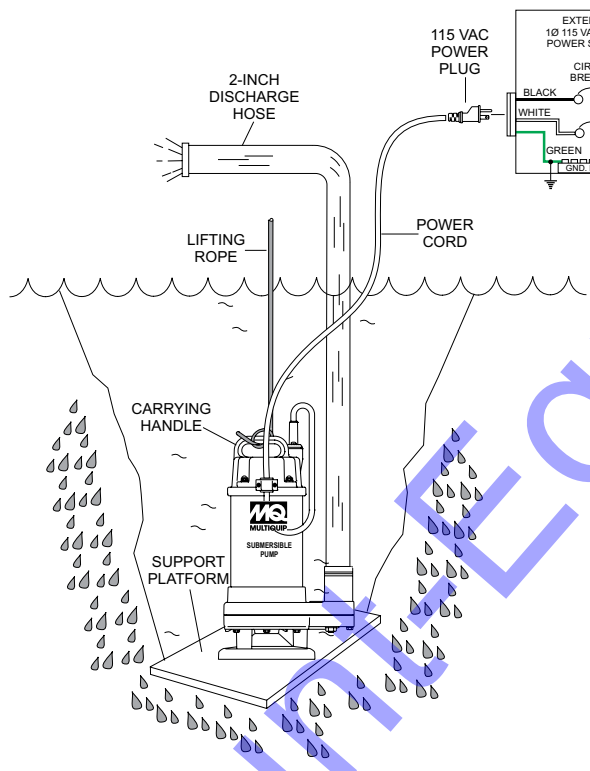
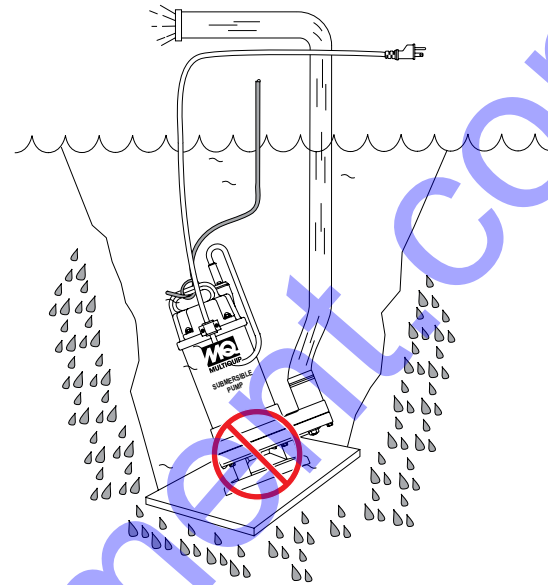

Figure 11. Submersible Pump Upright Position (Correct)
Figure 12. Submersible Pump Tilted Position (Incorrect)
1. Connect a 2-inch hose to the discharge port on the pump as shown in Figure 11. Make sure that hose is attached correctly to the discharge port.
1. Attach a suitable lifting cable (rope) to the carrying handle (Figure 11) on the pump and lower the pump into place. For applications where there is an excessive amount of mud, grit or silt, the use of a support platform is desirable. When pumping water from swimming pool type applications where there is little or no debris, the support platform is not required.
2. Make sure the pump is always placed in an upright position (Figure 11, and not tilted (Figure 12). Never position the pump directly on a soft, loose bottom. Remember to attain maximum pumping capacity and prevent excessive wear. Position the pump so it will not burrow itself into sand or clay.
2. Insert the power cable plug (Figure 11) into the appropriate power source receptacle. The correct source voltage for this pump is 115 VAC, 60 Hz, single-phase.